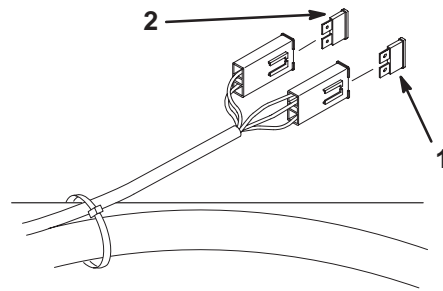

Figure 68
2. To replace a fuse, pull out on the fuse to remove it (Fig. 68).